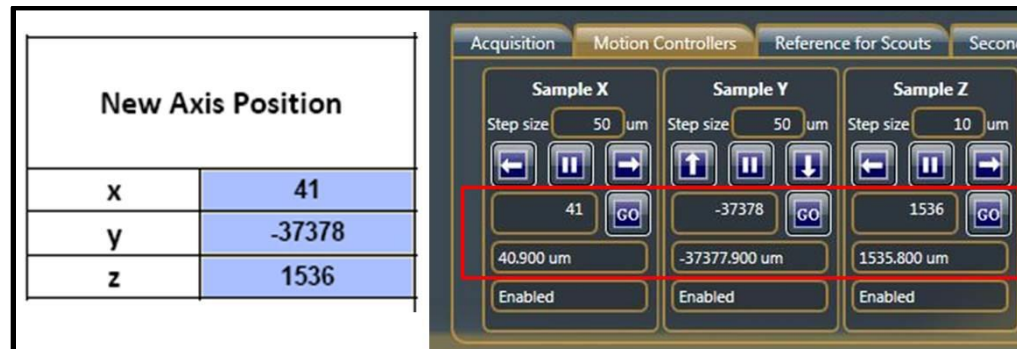

Figure 10: The sample is moved to the calculated new axis positions using the Motion Controllers.
- e. The stage positions for the interior tomography has been calculated and displayed in the *Internal ROI Calculator*. Move the sample to these positions using the Motion Controllers on the Load or the Scout page for the high resolution scan, as shown (Figure 10.)